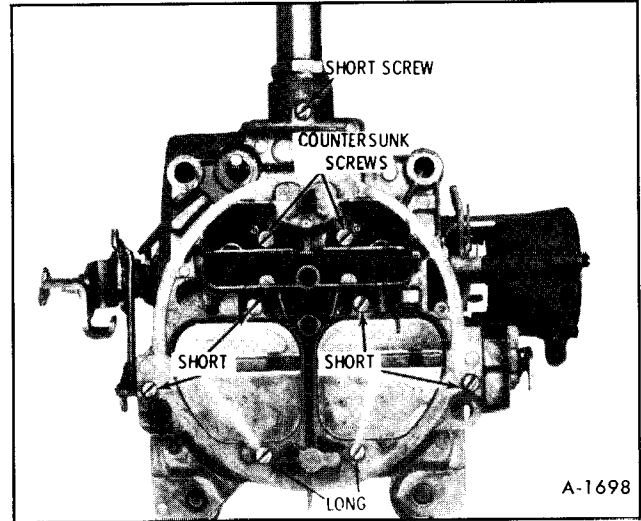

Figure 13—Air Horn Attaching Screws
5. Remove nine air horn to bowl attaching screws; two attaching screws are located next to the primary venturi. (Two long screws, five short screws, two countersunk screws.) See Figure 13.